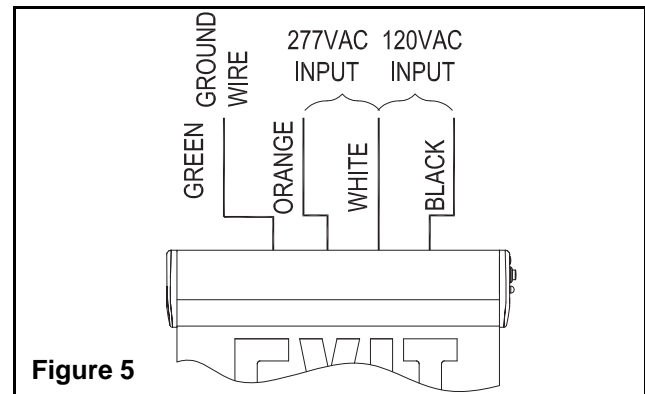

Figure 5
11. Make the proper connections (see figure 5):
3. Assemble canopy onto main body assembly with 2 screws PM4"15 (supplied) and make the proper wire connections. (See #11 fig.5 of the Recessed Ceiling Mount).